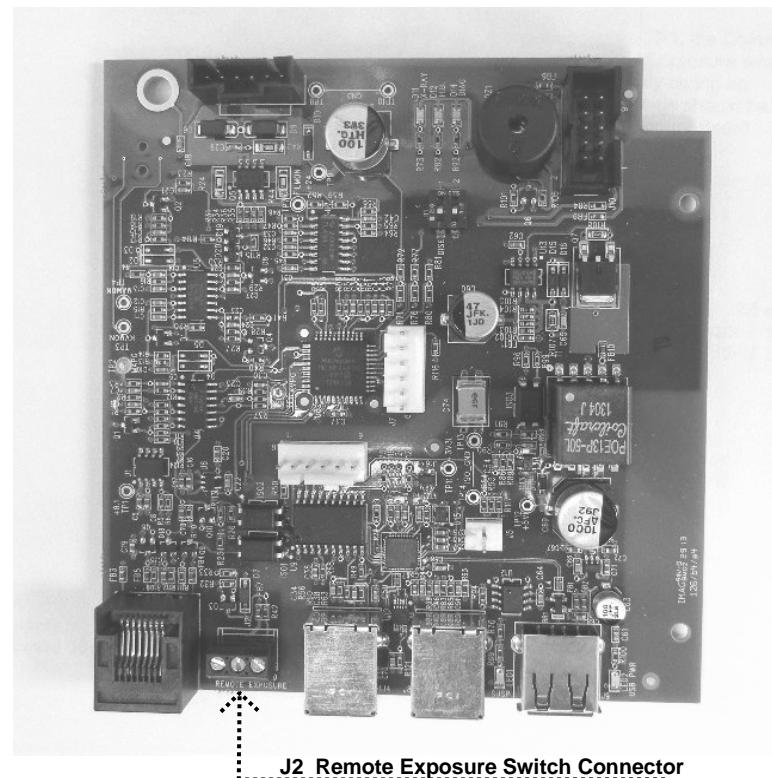

Figure 59
1. If the Operator Panel indicator does not sound, inspect the condition of any remote exposure switches. Substitution is the preferred method to test these switches, although a jumper wire can be applied across the contacts of J3, shown in *Figure 59*, on the Logic Board momentarily to simulate an exposure switch closure.